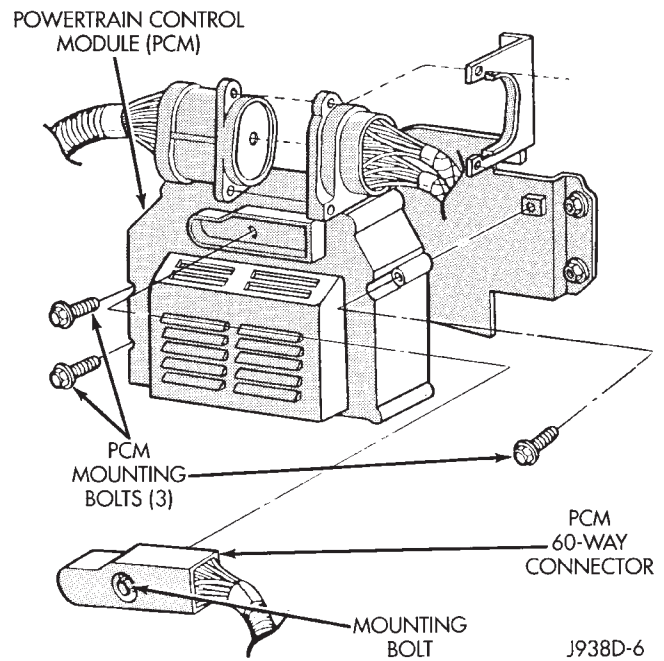

Fig. 32 PCM Mounting
- (3) Loosen the 60-Way connector mounting bolt (Fig. 32).
- (4) Remove the electrical connector by pulling straight back.
(5) Remove the three PCM mounting bolts (Fig. 32).
(6) Remove PCM.